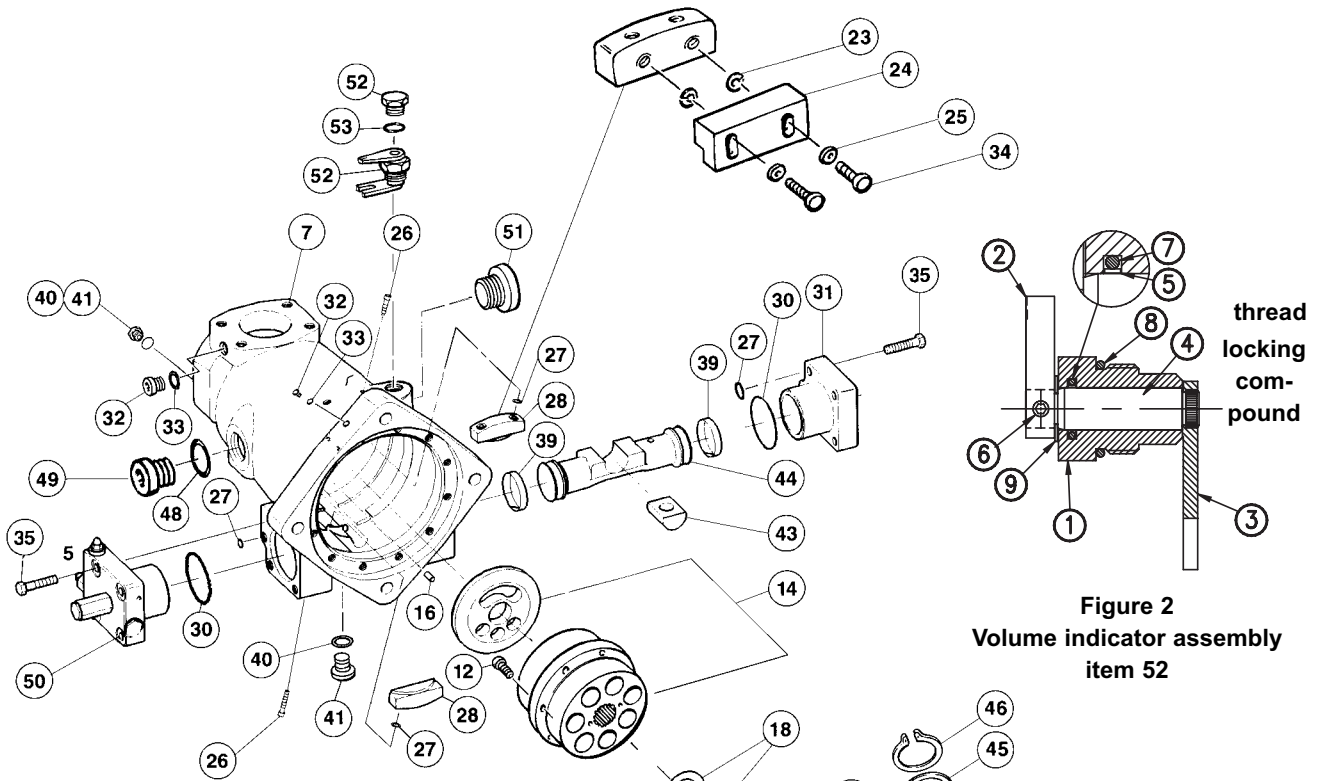

Figure 2
1. Remove plug (49) and drain oil from pump. Position pump with shaft up.
2. Wind maximum volume screw CW (ref item (50), item 1 page 27) so that piston (44) bottoms out. This positions the cam at approximately zero displacement allowing removal of the drive shaft.
3. Remove socket head cap screws (9). If disassembling PQ Control version, remove tubing and pass thru fitting (56).
4. Remove cradle assembly (6) from the housing. The threaded hole in end of the shaft is provided for lifting this assembly. Threaded hole is 3/8-16 for P07, M10 for ISO and M12 for DIN shaft.
5. Remove snap ring (4).
6. Remove screws (47) to remove cam bearing (42).
7. Remove shaft (1), bearing, and seal retainer. Support flat face of the rocker cradle and press end of shaft opposite the bearing end.
9. Remove retaining ring (20).
11. If pump contains a volume indicator assembly (52): *Refer to Figure 2:* Remove indicator pointer (2), retaining ring (9) and pivot nut (1) from pump housing. Remove pivot shaft and fork assembly (3) and (4) through the hole.